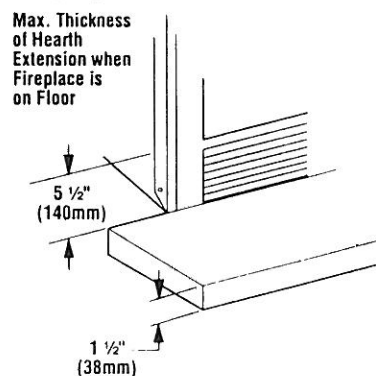

Figure 55
**WARNING: FIREPLACE MUST BE RAISED IF HEIGHT OF HEARTH EXTENSION EXCEEDS 1 1/2" (38MM) ABOVE BOTTOM OF FIREPLACE (FIGURE 55).**